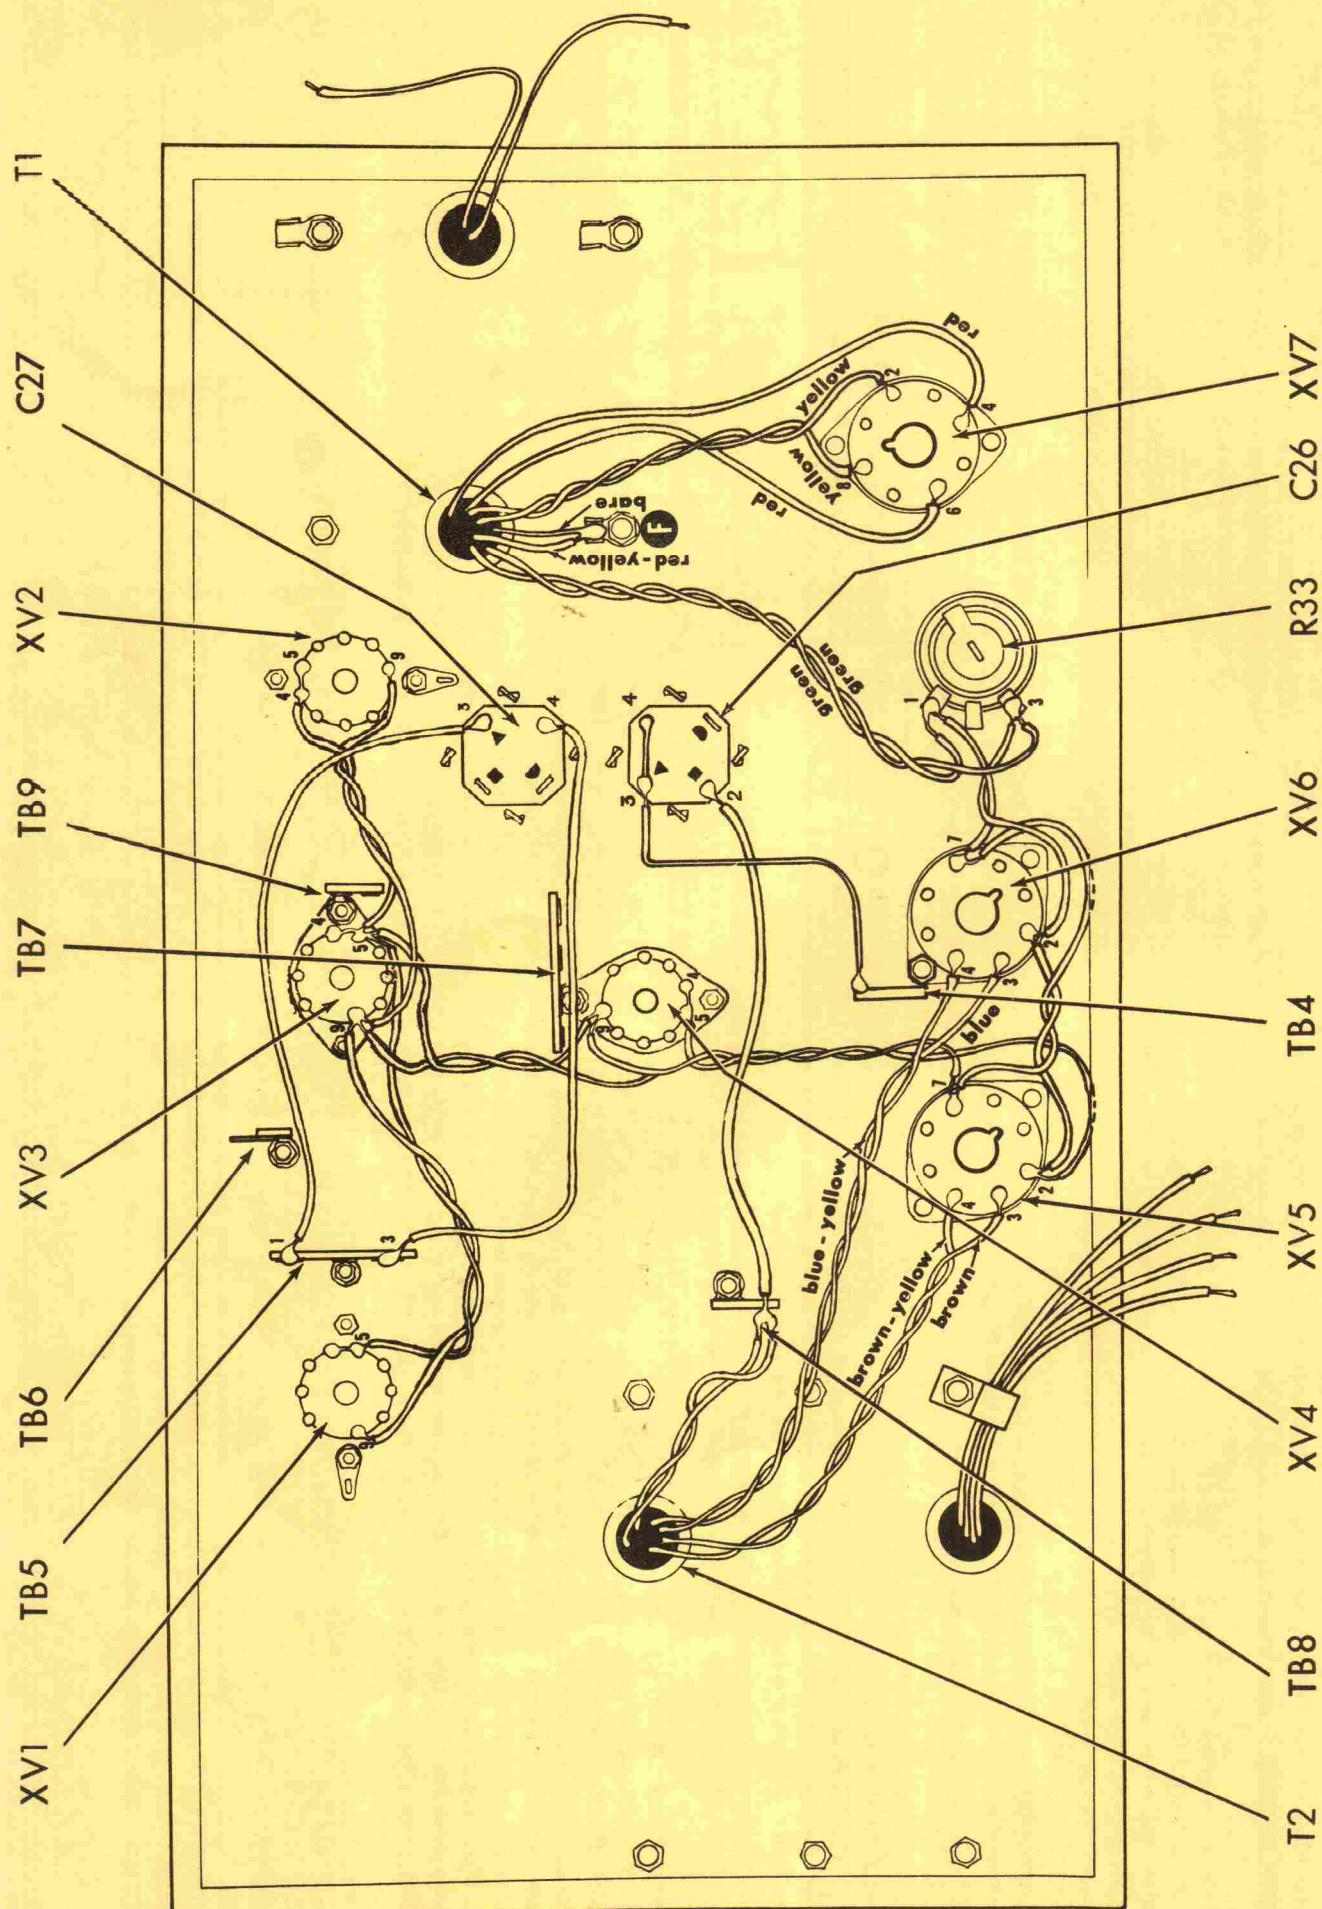

Fig. 1
INSERT DRAWINGS - FOR FIG. 1
() Fig. 1. Mount sockets with shield supports XV1 & XV2 as shown. Use two #4-40 screws, two #4 hex nuts, one #4 lockwasher and one #4 ground lug per socket. See insert drawing B.
() Fig. 1. Mount socket, XV3, as shown. Use two #4-40 screws, two #4 hex nuts and two #4 lockwashers. Mount a one post right with ground terminal strip, TB9, under one lockwasher at one end of socket. See insert drawing E.
() Fig. 1. Mount socket, XV4, as shown. Use two #4-40 screws, two #4 hex nuts and two #4 lockwashers. Mount a three post, two right with ground terminal strip, TB7, under one lockwasher at one end of socket. See insert E.
() Fig. 1. Mount the 100Ω open pot., R33, as shown. Use one 3/8" hex nut, one fiber flat washer and one fiber shoulder washer. Be careful that the pot does not short against the chassis. See insert drawing D.
() Fig. 1. Mount the power transformer, T1, as shown. The black leads must come through the hole nearest the side. Use four #10-24 screws, four #10 hex nuts, four #10 flat washers and four #10 lockwashers. Mount three #10 ground lugs under three of the lockwashers. See insert drawing A.
() Fig. 1. Mount the output transformer, T2, as shown. The hole with the four leads should be at the rear of the chassis. Use six #10-24 screws, six #10 hex nuts, six #10 flat washers and six #10 lockwashers. Use the cable clamp installed under the mounting nut shown to gather the 4 leads referred to above.
() Fig. 1. Mount a one post left terminal strip, TB8, a two post with ground terminal strip TB5 and a two post upright terminal strip TB6 as shown. Use one #6-32 screw, one #6 hex nut and one #6 lockwasher per terminal strip.
() Fig. 1. Mount the electrolytic capacitors, C26 and C27, as shown. Note
() Fig. 1. Mount sockets, XV5, XV6, and XV7 as shown. Use two #6-32 X 3/8 screws, two #6 hex nuts and two #6 lockwashers. Mount a one post right terminal strip, TB4, with XV6. See insert drawing E.
() Fig. 1. Twist the two green leads from the power transformer, T1, and connect one lead to R33-1 (C) and the other to R33-3 (C).
() Fig. 1. Connect a yellow lead from R33-1 (S) to XV6-7 (C).
() Fig. 1. Connect a brown lead from R33-3 (S) to XV6-2 (C).
() Fig. 1. Cut and strip the ends of one 5" length of yellow wire and one 5" length of brown wire. Connect one end of the yellow lead to XV6-7 (S) and one end of the brown lead to XV6-2 (S). Twist the two leads. Connect the other end of the yellow lead to XV5-7 (C) and the other end of the brown lead to XV5-2 (C).
() Fig. 1. Following the above procedure, cut and strip a 6" length of brown wire and a 5" length of yellow wire. Connect the yellow lead to XV5-7 (S) and the brown lead to XV5-2 (S). Twist the two leads. Connect the yellow lead to XV4-9 (C). Pass the brown lead through XV4-5 (C) to XV4-4 (S).
() Fig. 1. Following the above procedure, cut and strip a 3" length of yellow wire and a 5" length of brown wire. Connect the yellow lead to XV4-9 (S) and the brown lead to XV4-5 (S). Twist the two leads. Connect the yellow lead to XV3-9 (C) and the brown lead through XV3-4 (S).
() Fig. 1. Following the above procedure, cut and strip a 5" length of yellow wire and a 7" length of brown wire. Connect the yellow lead to XV3-9 (S) and the brown lead to XV3-5 (C). Twist the two leads. Connect the yellow lead to XV2-9 (S) and the brown lead through XV2-4 (S) to XV2-5 (S).
() Fig. 1. Following the above procedure, cut & strip a 7" length of yellow wire and a 7" length of brown wire. Connect the yellow lead to XV3-9 (S) and the brown lead to XV3-5 (S). Twist the two leads. Connect the yellow lead to XV1-9 (S) and the brown lead through XV1-5 (S) to XV1-4 (S).
() Fig. 1. Twist the red leads of the power transformer T1 and connect to XV7-2 (S) and XV7-8 (C).
() Fig. 1. Twist the red leads of the power transformer T1 and connect to XV7-4 (S) and XV7-6 (S).
() Fig. 1. Connect the red-yellow lead and the bare lead of the power transformer T1 to ground lug "F" (S).
() Fig. 1. Twist the red and red-yellow leads of the output transformer T2 and connect to TB8 (C).
() Fig. 1. Connect a blue lead from TB8 (C) to C26-2 (C).
() Fig. 1. Twist the blue and blue-yellow leads of the output transformer T2. Connect the blue lead to XV6-3 (S) and the blue-yellow lead to XV6-4 (S).
() Fig. 1. Twist the brown and brown-yellow leads of the output transformer T2. Connect the brown lead to XV5-3 (C) and the brown-yellow lead to XV5-4 (S).
() Fig. 1. Connect a 6" blue lead from TB5-1 (C) to C27-3 (C).
() Fig. 1. Connect an 8" blue lead from TB5-3 (C) to C27-4 (C).
() Fig. 1. Connect one end of a 4" blue lead to TB4 (C). Pass the other end thru C26-3 (C) and connect to C26-4 (C).